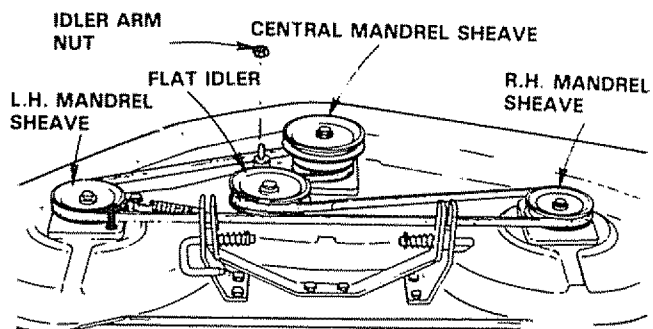

FIGURE 45
- Check deck idler arm assembly and flat idler to see that they rotate freely (Fig. 45).
- Be sure spring is hooked in deck idler arm assembly and on bolt in mower housing (Fig. 45).
- Install new belt in groove of L.H. mandrel sheave, lower groove of center mandrel sheave and around flat idler as shown (Fig. 45).
- From a position at discharge end of mower, roll belt into groove of R.H. mandrel sheave (Fig. 45).